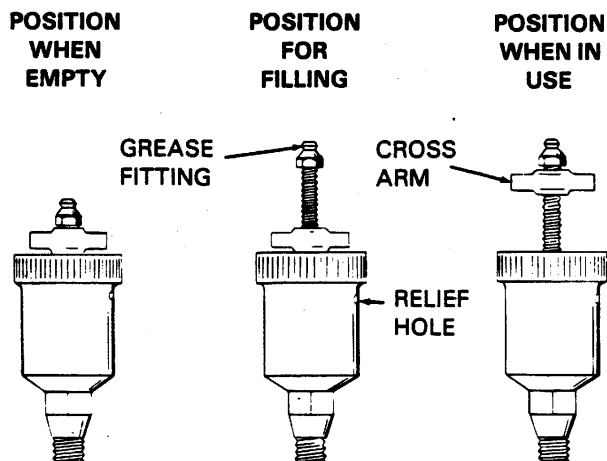

Figure 3. Automatic Lubricating Grease Cup
Before starting the pump, fill the grease cup (13) through the grease fitting with a good grade of No.2 pressure gun grease until grease escapes from the relief hole. Turn the grease cup arm counterclockwise until it is at the top of the stem; this will release the spring to apply grease to the seal (see Figure 3).